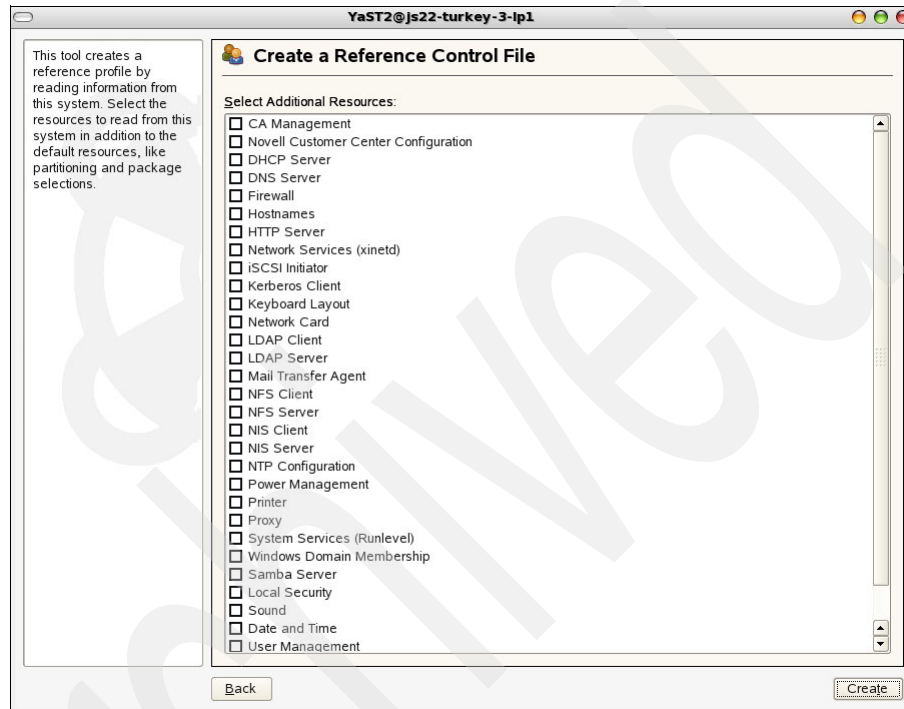

Figure B-6 Selecting additional resources
3. A second window opens, as shown in Figure B-6. In addition to the default resources such as boot loader, partitioning, and software selection, you may add other aspects of your system to the profile by checking the specific items in the Select Additional Resources section. When you are ready, click **Create** so YaST can collect the system information and create the AutoYaST profile.